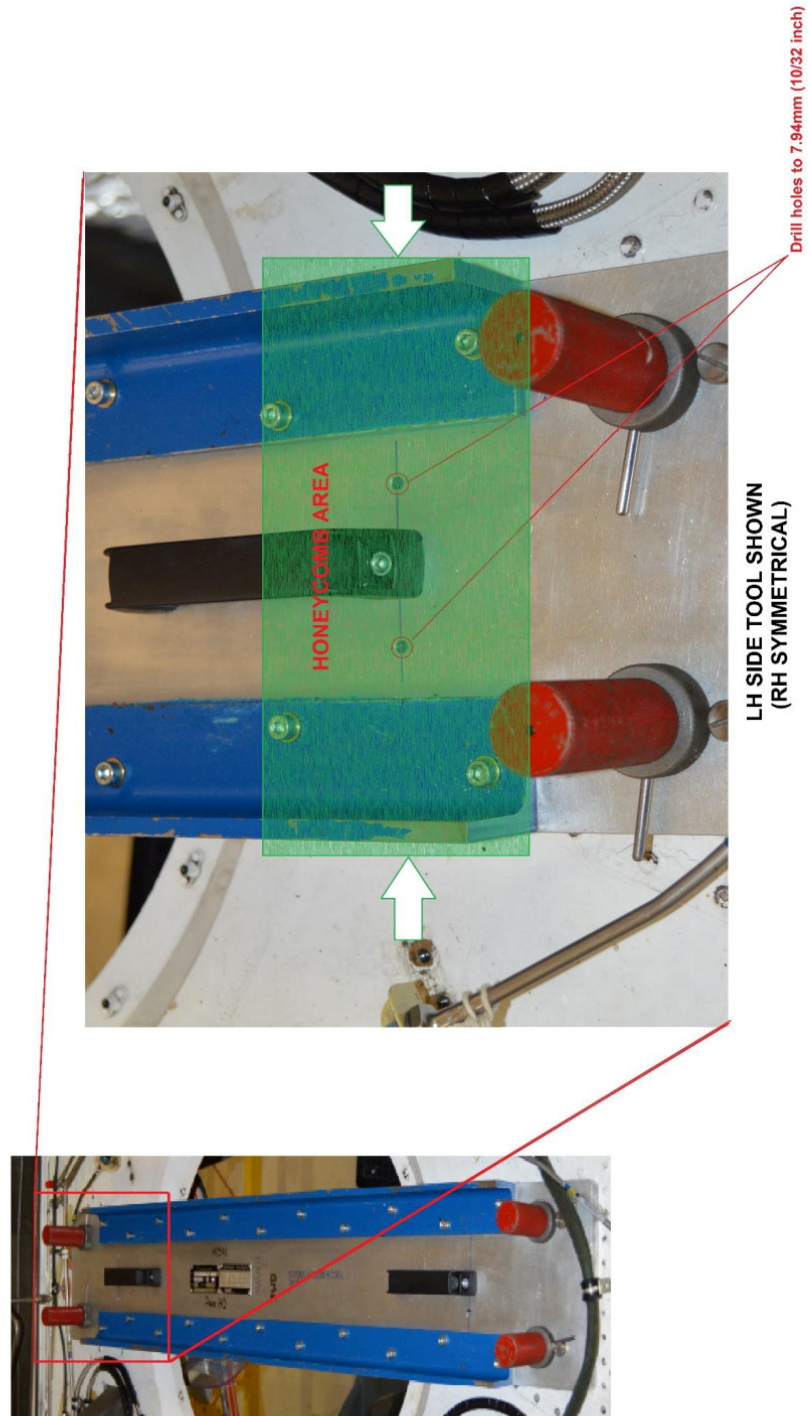

Figure 4 – Fastener Hole Installation on Alignment Tool
8. If supplementary fastening holes are not already drilled on the tool, locate and mark two hole locations that are equidistance and sit above a centralized location of the honeycomb on the deck. Reference (Fig. 4).
- 4. Figure 4 – Fastener Hole Installation on Alignment Tool